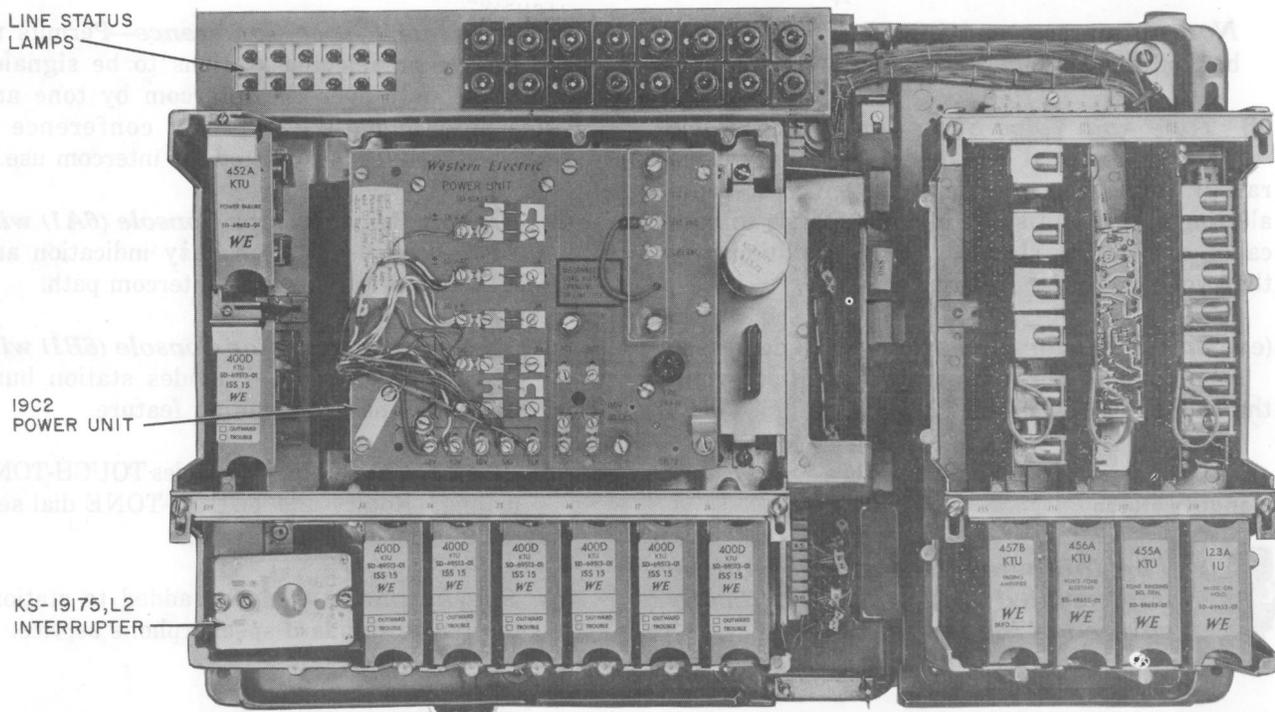

Fig. 2—570A KSU (Cover Removed)
2.03 The KTU's and power unit are mounted in the 570A KSU (Fig. 2).
2.07 The 570A KSU (Fig. 2) provides the following features: